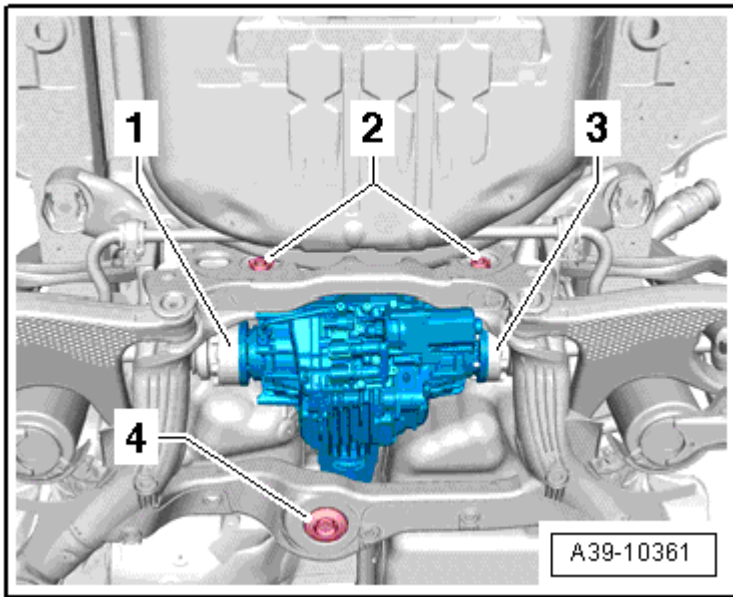

Fig. 107: Locating Rear Subframe Bolts
- Remove the two back bolts that connect the rear final drive to the subframe, refer to **Fig. 107**.